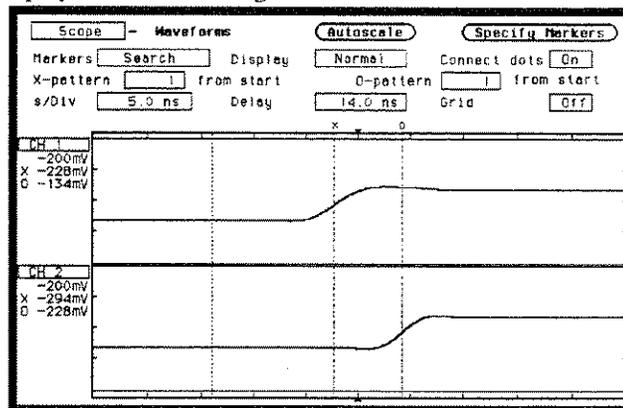

Figure 25-26. Waveform Display
8. Select the Done field to return to the waveform display. The display now looks like figure 25-26.